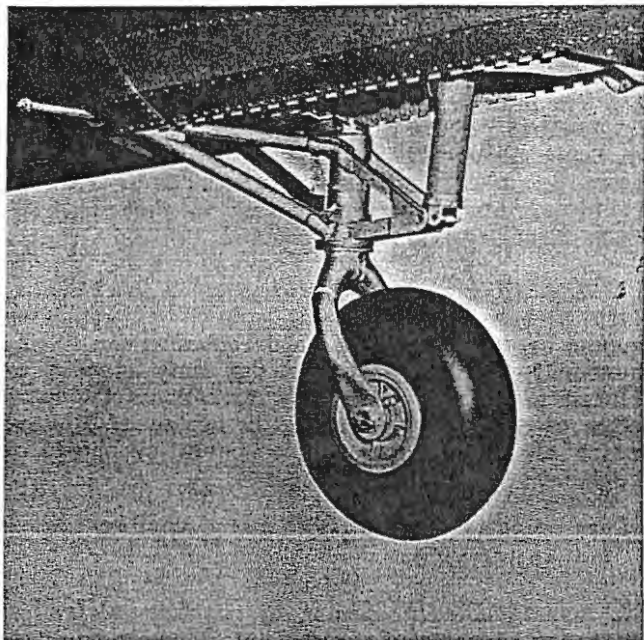

Figure 2-78. Tail Gear Assembly Installation
2-266. DESCRIPTION. The tail gear truss assembly (figure 2-78) is a welded steel tube structure. It supports the swivel fork, wheel assembly and tail wheel locking assembly. It is hinged to the fuselage at its forward end and supported at the aft end by an air-oil shock absorber, which attaches to the tail wheel slide.
- a. With aircraft on jacks, raise tail wheel truss assembly into position and install hinge bolt through tail gear at forward attaching point (figure 2-78).